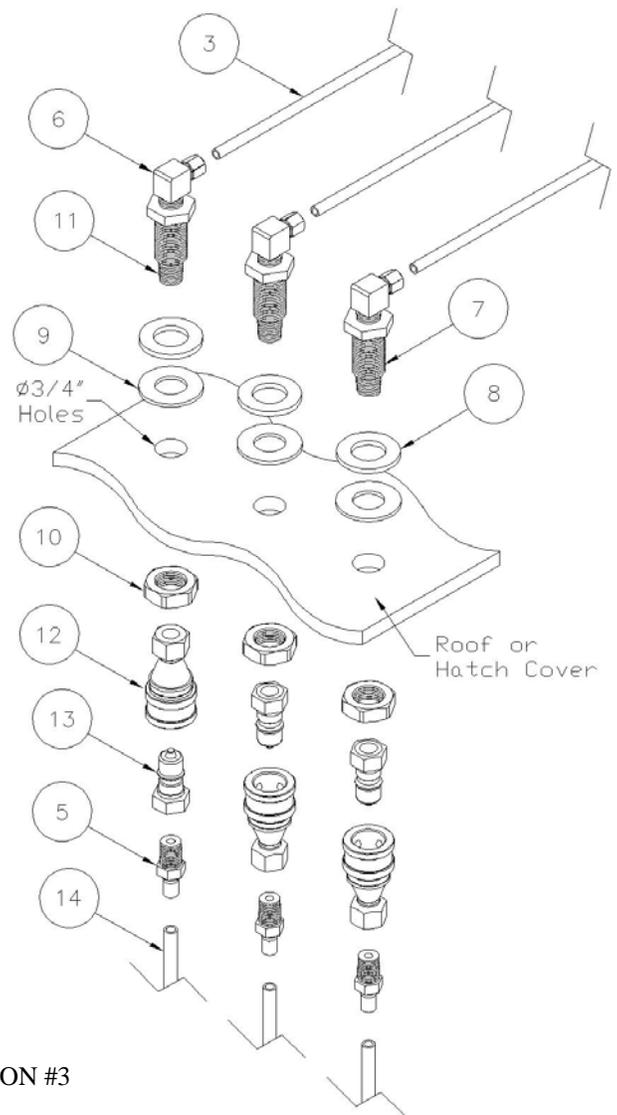

Figure 3
9. Assemble the fittings according to Figure 3. Ensure that the rubber washer [#9, Figure 3] is compressed between the steel washer [#8, Figure 3] and the hatch cover or roof. Two female quick disconnects [#12, Figure 3] with one male quick disconnect between them [#13, Figure 3] will be connected to the 1/4" brass nipples [#11, Figure 3]. This is to ensure that the lines do not get reversed when the Load Diverter is removed for cleaning.